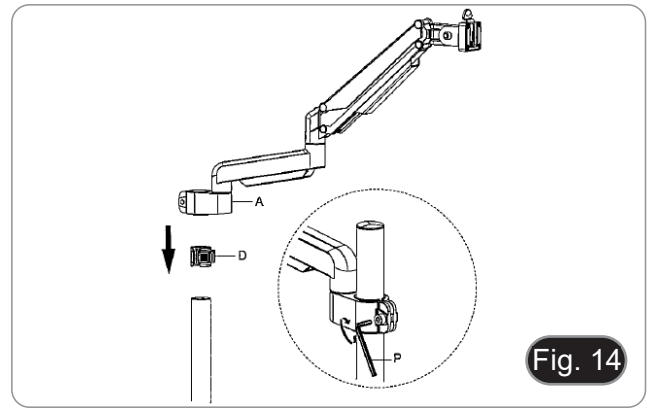

Fig. 14
- **NOTE: The plastic cover (H) also serves as a container for the Allen keys used for assembly and tension adjustment of the various parts.**
6. Insert the cable holder (D) in the pillar.
7. Insert the flexible arm (A) and tighten the fixing screw. (Fig. 14)